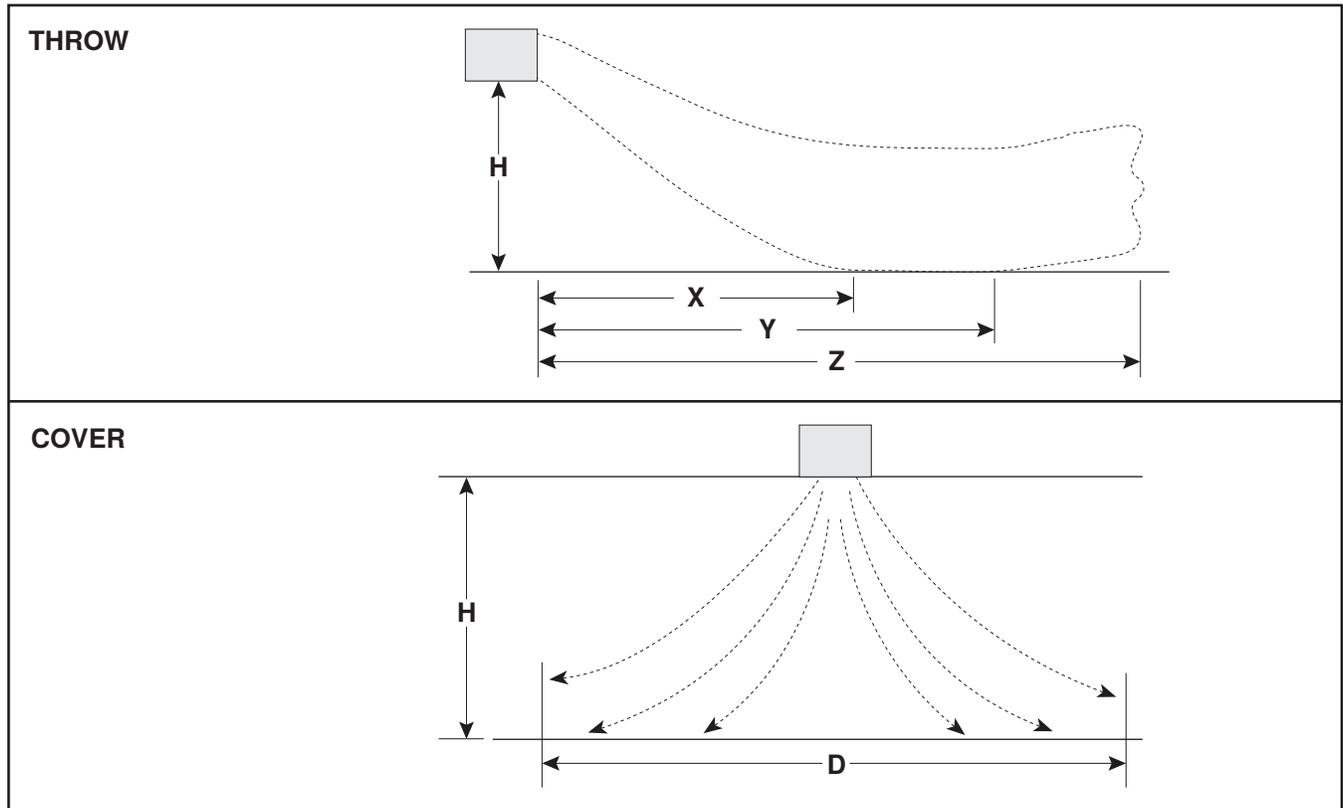

Figure 2. Heater Throw and Cover Patterns (Refer to Table 4)
Figure 2 shows throw and cover patterns and **Table 3** lists throw and cover distances for heaters suspended at varying mounting heights and angles with either side discharge or down discharge. In the graphic and table below:
*See Figure 2.